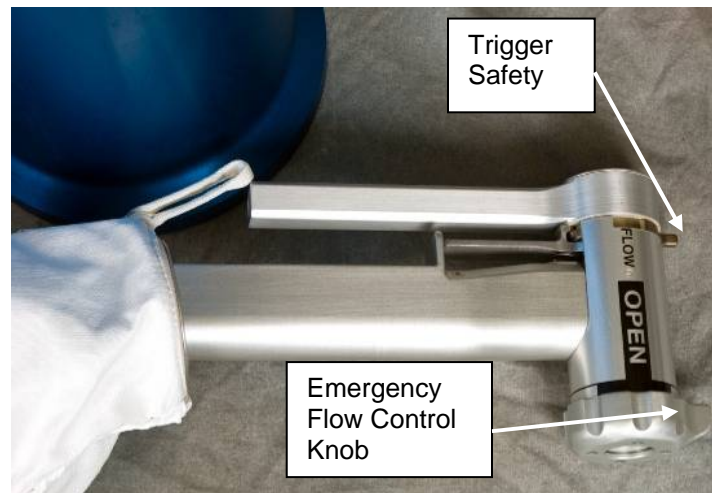

Figure 5.- Gun Nomenclature. Note that valve shown CLOSED in this photo (not correct configuration) and the nozzle not installed
28. Verify emergency flow control knob on back of gun in OPEN position (figure 5)